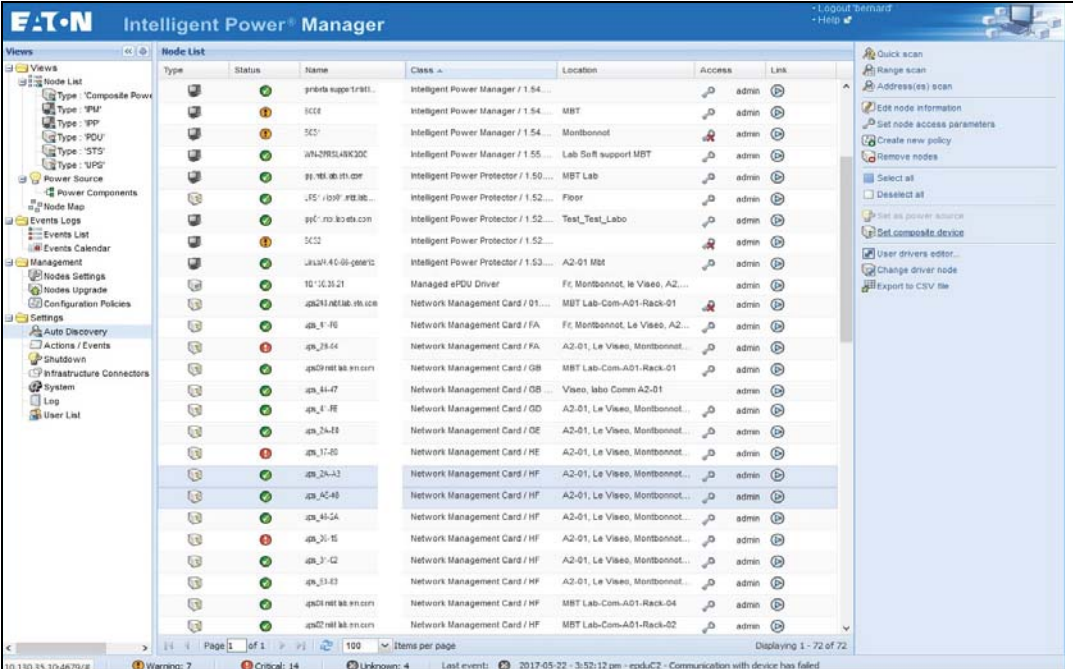

Figure 172. Selecting Set Composite Device for Nodes
- 4. Click **Set composite device** in the right panel (see Figure 172).
Three actions you can perform on the new node are as follows (see Figure 172):